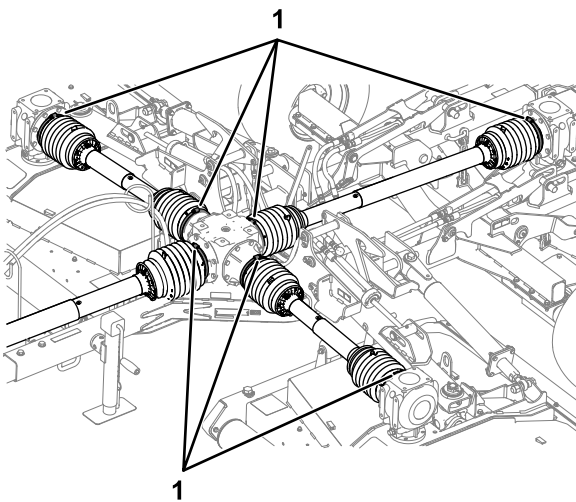

Figure 16
7. Check that the 7 hose clamps firmly secure the drive-shaft guards to the center and deck gear boxes (Figure 16).